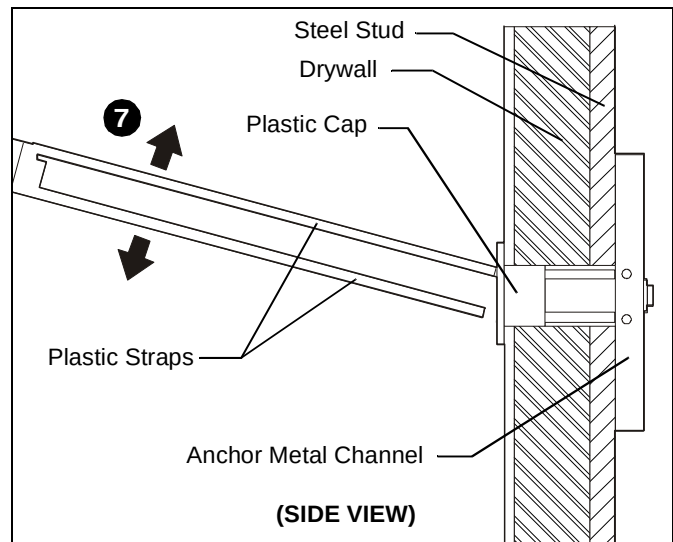

Figure 12
7. Snap off plastic straps on anchor at wall by pushing side to side, snapping off straps level with flange of plastic cap. (See Figure 12)